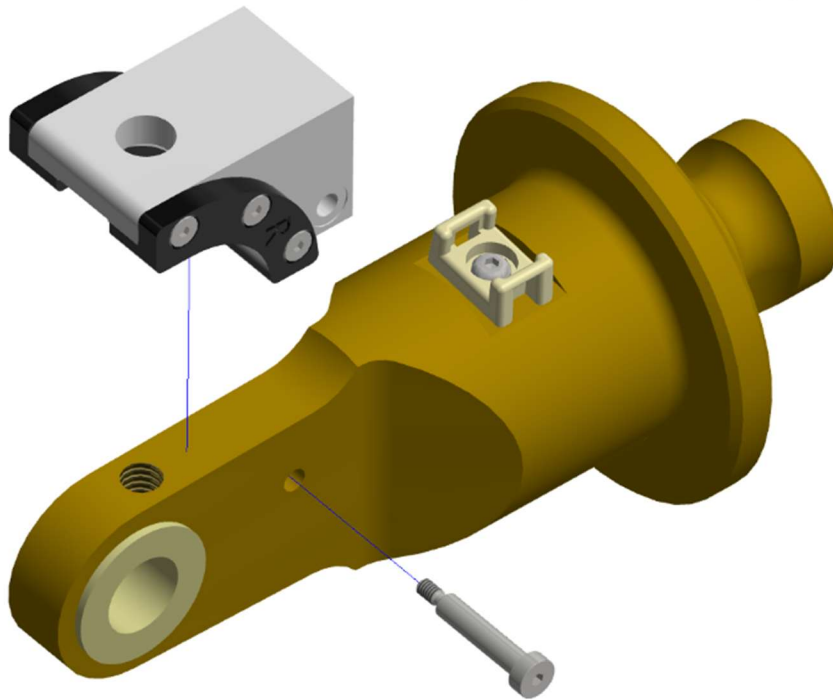
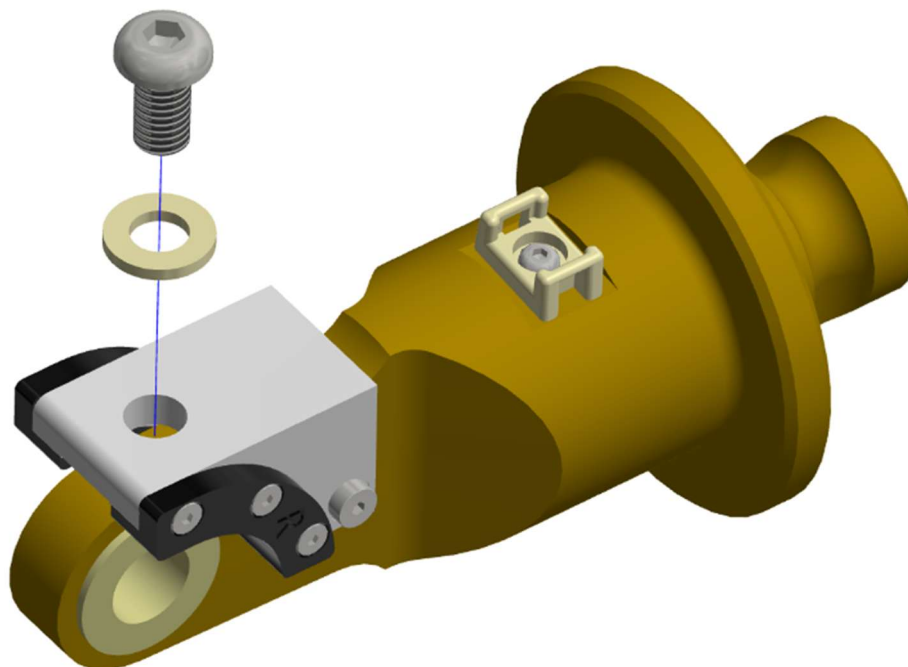

Figure 11-31. Attach the Elbow Friction Plate (474-6116-A) to the Distal Upper Arm Tube Assembly (474-6115-1,2) with one M3 X 14 LG. Prec. SHSS SS
Figure 11-32. Elbow Friction Plate and Distal Upper Arm Tube Assembly
- 11.3.8 Attach the Elbow Friction Plate (474-6116-A) to the Distal Upper Arm Tube Assembly (474-6115-1,2) with one M3 X 14 LG. Prec. SHSS SS (Figure 11-31) and one M6 X 1 X 12 LG. BHCS, M6 Nylon Flat Washer (Figure 11-32).